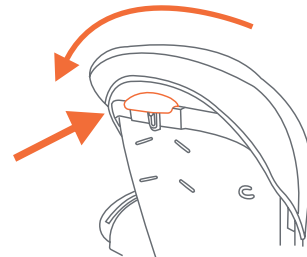

Fig. 12
- 12) • Squeeze recline lever on back of the seat and adjust to the preferred recline or upright position (Fig. 12). Use caution not to trap arms, hands and fingers when adjusting recline positions.